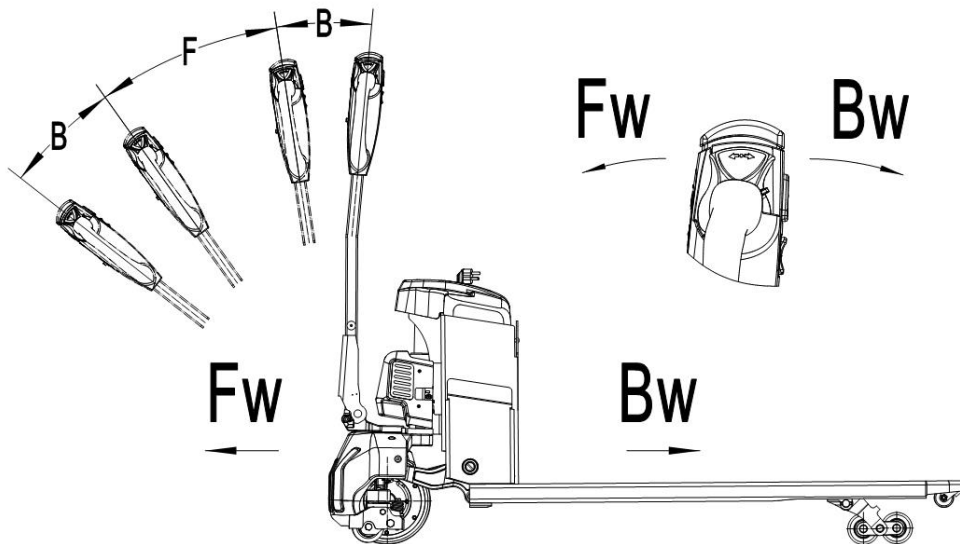

Fig. 8: Operating direction
After starting the truck by the key (15), move the tiller to the operating zone ('F', Fig.8).
Turn the accelerator knob to the desired direction forward 'Fw.' or backward 'Bw.' (Fig. 8). Control travelling speed by operating the accelerator (16) carefully until it reaches your desired speed. If you move the accelerator back to the neutral position, the controller will decelerates the truck until the truck stops. If the truck stops, the parking brake will be engaged. Drive the truck to the destination carefully. Watch the route conditions and adjust the travelling speed by operating the accelerator. Press the crawl speed button (14) to enter into turtle speed mode, travel slowly by operating the accelerator. Press the crawl speed button again to switch to regular speed mode. Press the crawl speed button (14) and hold it for 2 seconds to activate driving function with tiller in vertical position when operating in confined areas.